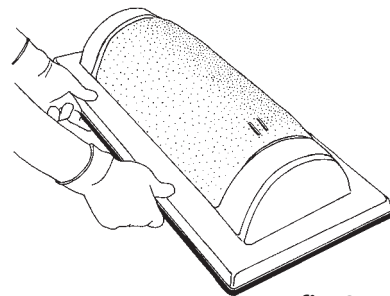

fig 2
1. Undo the black turnclips at either end of the model **fig 2**.